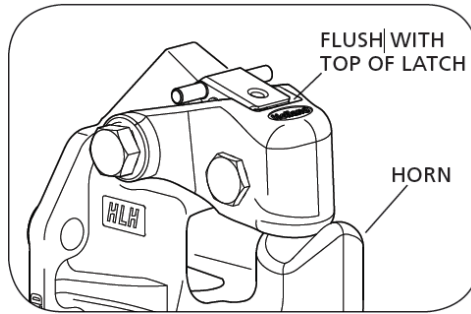

Figure 6.11
- Push the latch closed. When locked correctly, the lock handle will rotate and move up until it is flush with the top of the latch (Figure 6.11).